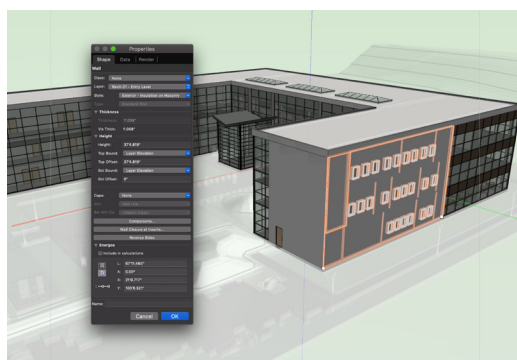

FIGURE 1: Imported RVT wall becomes Vectorworks wall.
4. Straight and round walls are imported as Vectorworks walls, with components, and wall joins preserved. **(Figure 1)**
Create Vectorworks Native Objects – this should be chosen for the scenarios when the landscape architect wants to keep the intelligence associated to those building elements as well as its geometry. With this setting enabled, Revit-created objects like walls become Vectorworks walls... and a Revit-created window or door within one of those walls become a Vectorworks window in wall or door in wall. (Figures 1 and 2) Imported Revit-created objects which may not have a directly related Vectorworks object would become a Revit Entity.